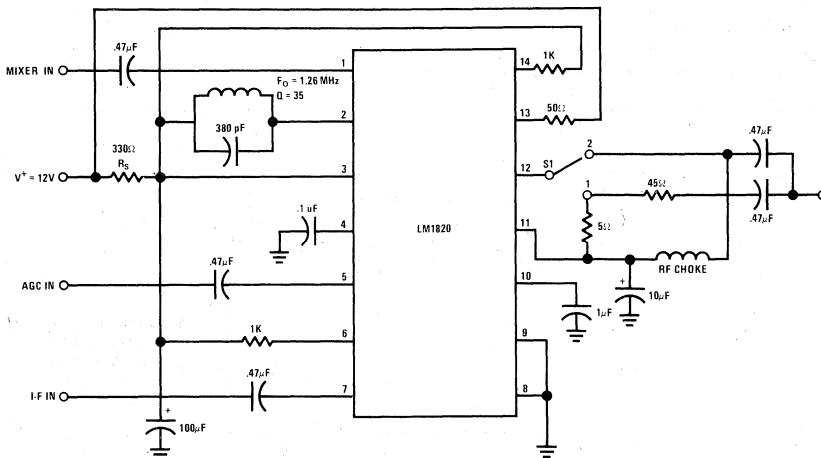

FIGURE 1.
**electrical characteristics** ( $T_A = 25^\circ\text{C}$ ,  $V^+ = 12\text{V}$ , Figure 1)